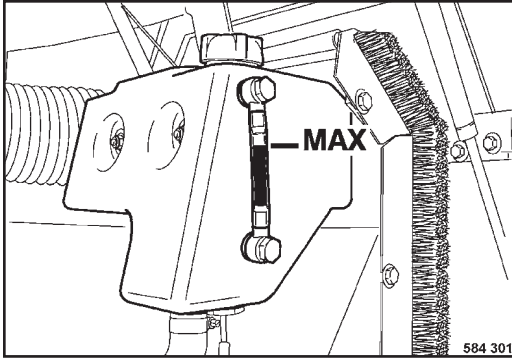

Fig. 158
- Unscrew the cap and fill in coolant up to the MAX-mark. (Fig. 158)